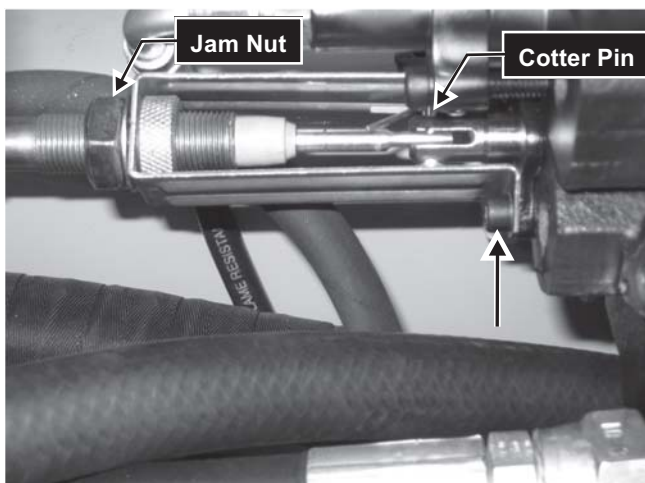

Fig. 6-73 Location of hex-head machine screw securing cable mount to control valve.
4. At control valve, loosen jam nut on cable mount. **Fig. 6-73**
5. Remove two hex-head machine screws on cable mount. **Fig. 6-73**
6. Remove cotter pin securing auxiliary hydraulics cable to auxiliary spool valve. **Fig. 6-73**